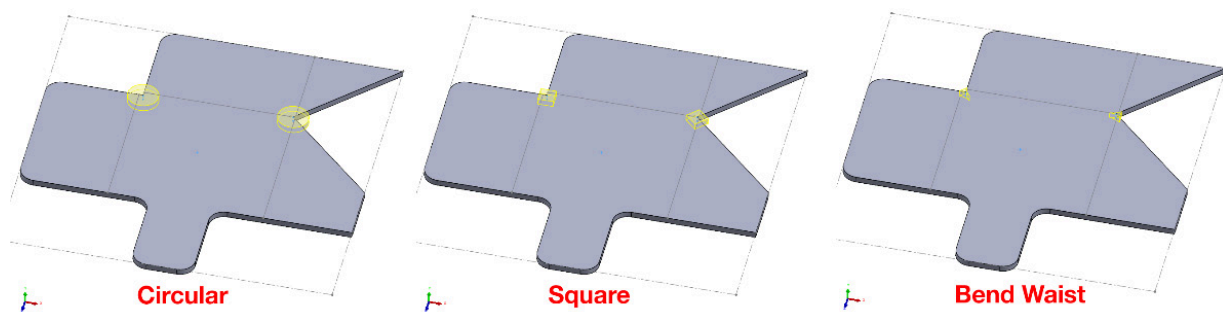

Figure 9.18: Relief cut types
4. Set the **Relief Type** and **Size**. This can either be **Circular**, **Square**, or **Bend Waist** (Figure 9.18):